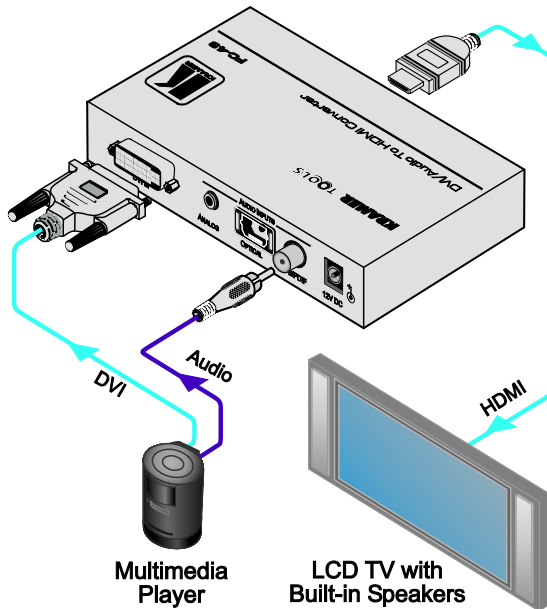

Figure 2: Connecting the FC-49 DVI / Audio to HDMI Converter
To connect the **FC-49**, as the example in Figure 2 illustrates, do the following1:
3. Connect the 12V DC power adapter to the power socket and connect the adapter to the mains electricity (not illustrated in Figure 2).